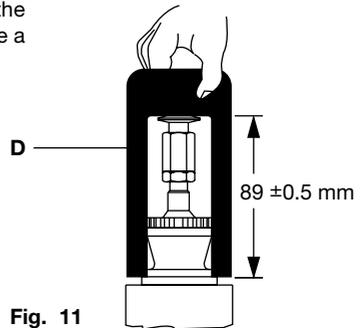

Fig. 11
5. Screw the adaptor (B) onto the stem. Use cardboard gauge supplied to set dimension 89 ± 0.5 mm (Figure 11).
6. Lock adaptor in place using M8 lock-nut (C).
6. Without disturbing the adaptor setting as in the previous Step, remove the large collar (A).
7. Again without disturbing the adaptor setting lock it in place using the M8 lock-nut (C).
8. Re-fit the large collar (A) onto the bonnet and torque tighten to 50 N m.